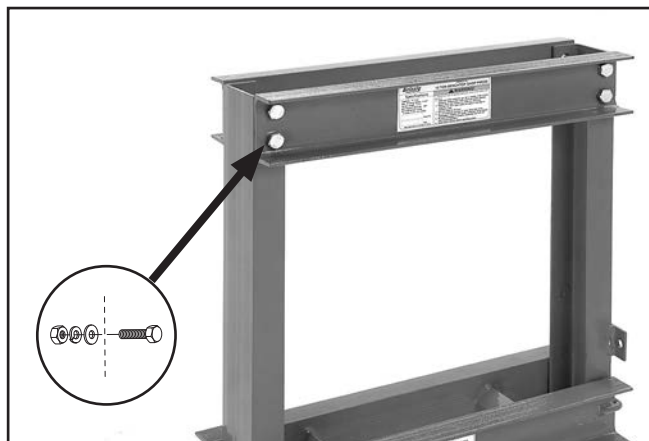

Figure 8. Upper U-beam installed.
7. Swing the U-beams upward into alignment with the mounting holes, and install the remaining three M12-1.75 x 110 hex bolts with 12mm flat washers, lock washers, and hex nuts, as shown in **Figure 8**.